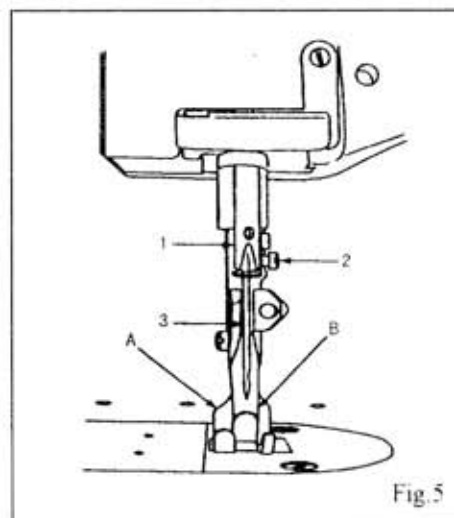

Fig.5
4. REPLACE NEEDLES (Fig.5)
2) When altering the lift of the lifting presser foot (A Fig.5) unequally against that of the vibrating presser foot (B Fig.5) or vice versa, see the instructions " ADJUSTING THE HEIGHT OF THE PRESSER FEET "